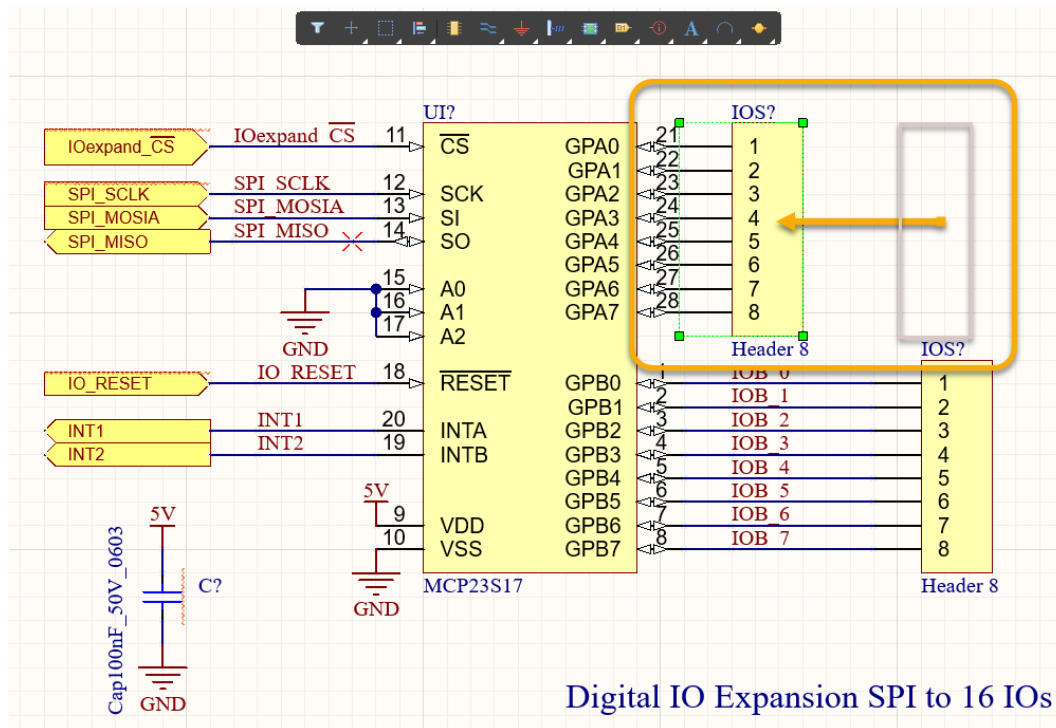

Figure 32. Connecting pins for MCP23S17 and first Header 8
39. Hold the left-click and drag the header over to `MCP23S17` that pins of the `IOS?` header bump up against Pins 21-28 of `MCP23S17` as shown in *Figure 32* below.